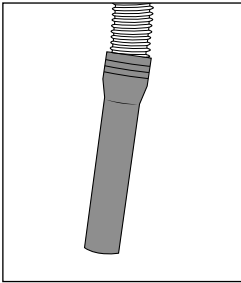

Fig. 9
- ◆ Use the suction hose ⑳ to suck up larger dirt particles (see fig. 9).